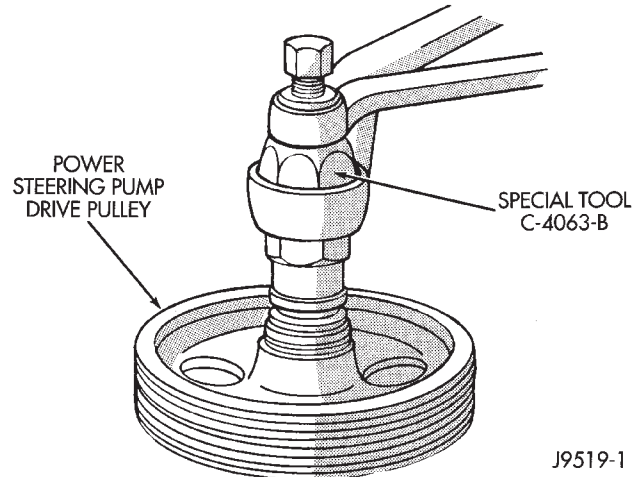

Fig. 6 Pulley Installation
- (1) Replace pulley if bent, cracked, or loose.
- (2) Install pulley on pump with Installer C-4063-B (Fig. 6) flush with the end of the shaft. Ensure the tool and pulley remain aligned with the pump shaft.
- (3) Install pump assembly.